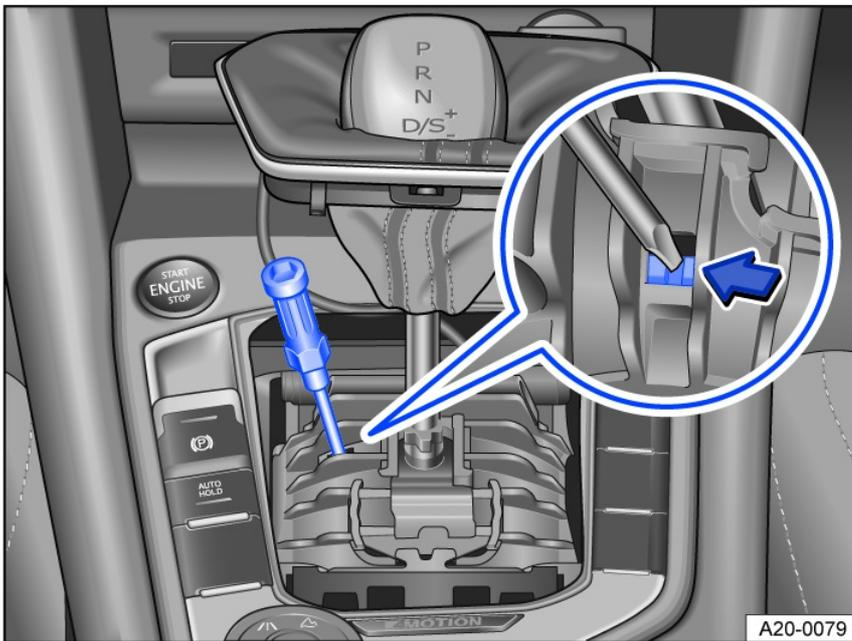
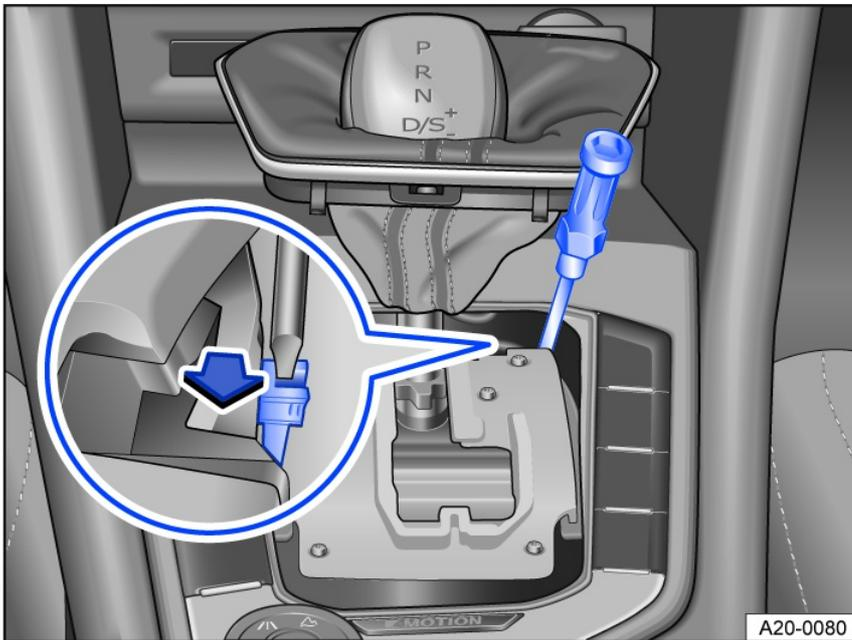

Fig. 119 Manually release the Automatic Shift Lock (ASL) (variant 1).
Fig. 120 Manually release the Automatic Shift Lock (ASL) (variant 2).
3. Pull the cover near the selector lever boot upward carefully with the wires connected *fig. 119* or *fig. 120*.
1. Press the release lever in the direction of the *fig. 119* or *fig. 120* arrow and hold in this position.